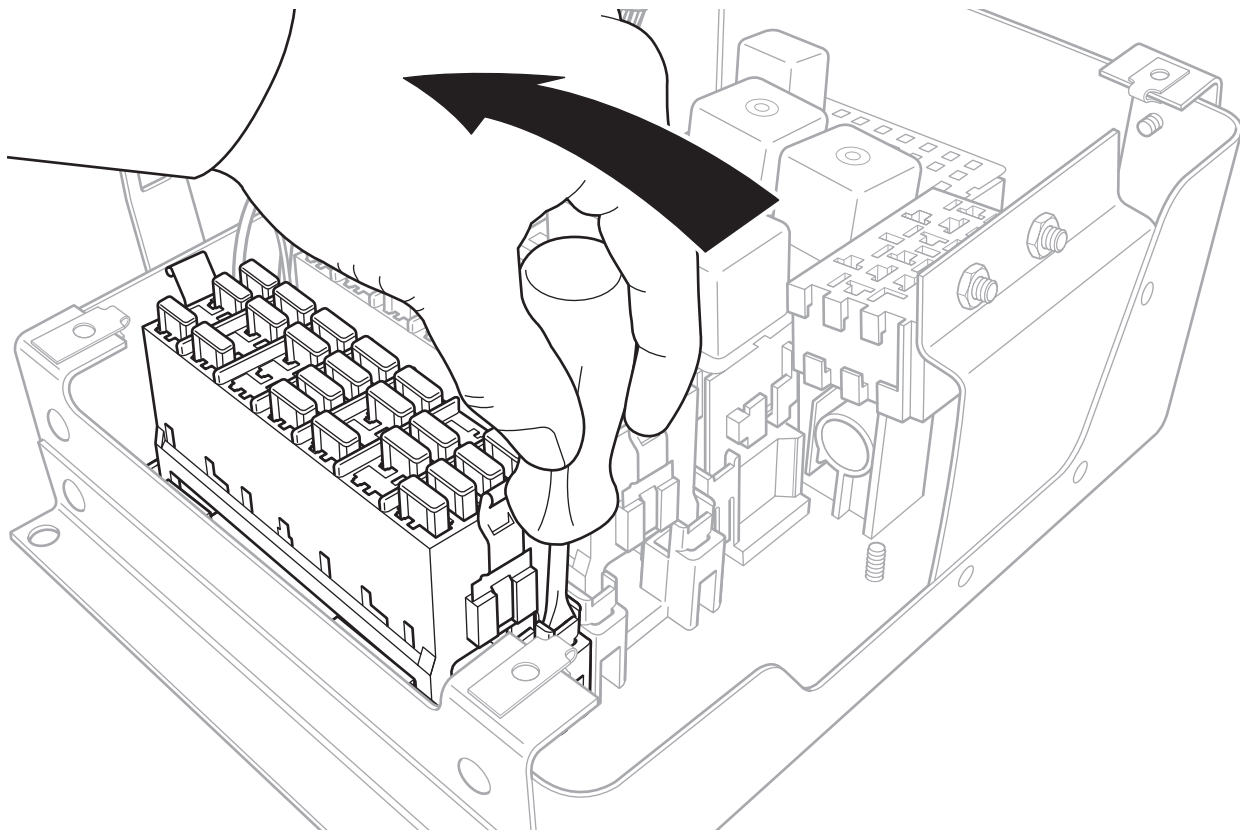

Figure 11: Releasing the lower mini-block tabs.
23. Remove the face of the interior fuse box and remove the lower mini fuse block from the box to gain access to the buss on the rear of the block (See Figure 11).